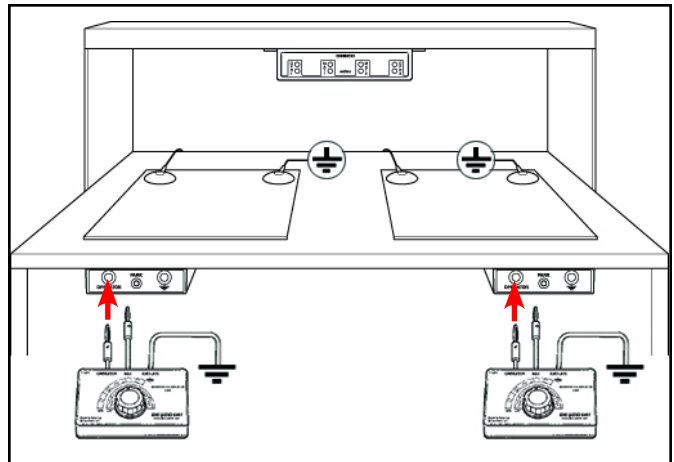

Figure 4. Connecting the OPERATOR test lead from the Monitor Calibration Unit to the satellite remote
Step 2: Insert the Calibration Unit's banana plug labeled "OPERATOR" into the jack labeled "OPERATOR" on the satellite remote (see Figure 4).